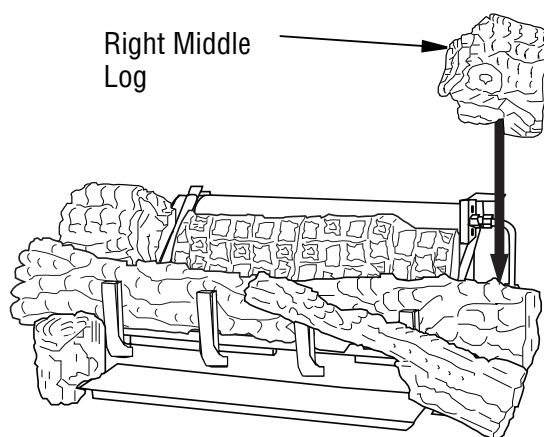

Figure 35 - Installing Right Middle Log
- The right middle log has a groove on the bottom to sit on the chassis and has to sit on the tab on the back of the right front. The right middle log should have a recess area that fits around the ramp log as shown in **Figure 35**.